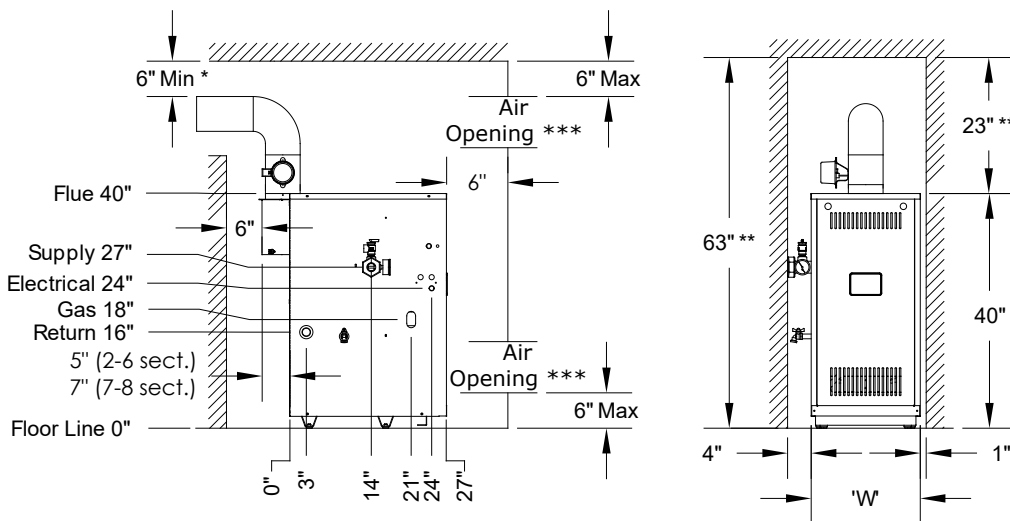

Figure 4-1: Minimum Closet Clearances - 2-8 Section Boilers
1. Provide clearances between boiler jacket and combustible material in accordance with authority having jurisdiction. Minimum clearances to combustible material shown in Figure 4-1 and 4-2.
- Maintain clearances to vent piping and draft hood per Figures 4-1 and 4-2.
1. Locate boiler as close to chimney as possible. See Figure 4-1 and 4-2 for minimum clearances.